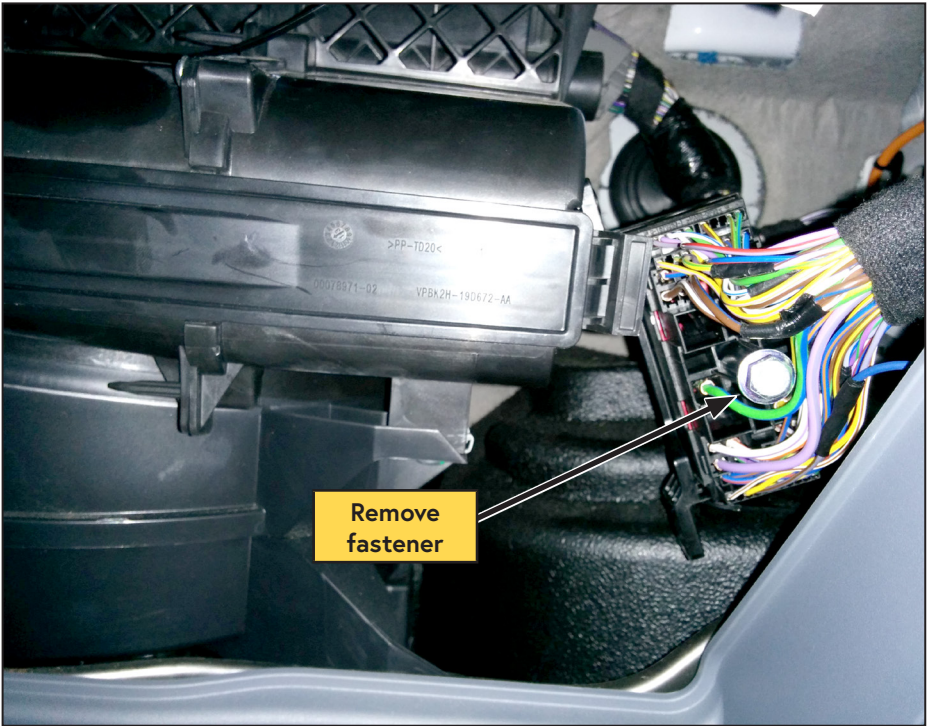

Figure 76 — Connector C210
- Gently pull the connector toward the driver side and remove the 10 mm bolt to separate the connector (Figure 76).